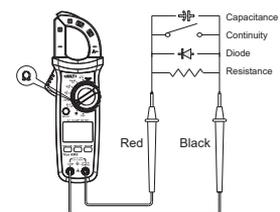

fig.4
- When the measured voltage is $\geq 30\text{V}$ (AC) or $\geq 60\text{V}$ (DC), the LCD will display the high voltage alarm prompt " ".
3. Resistance Measurement (fig.4)
4. Continuity Test (fig.4)
5. Diode Test (fig.4)